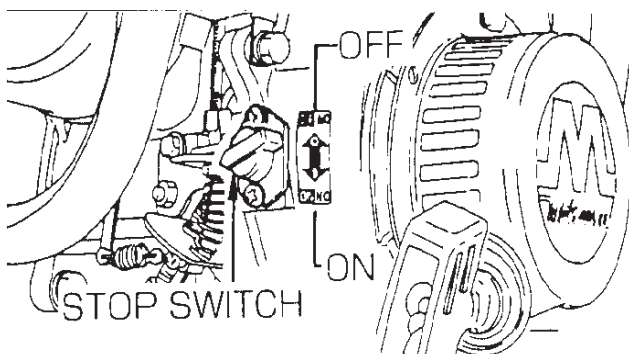
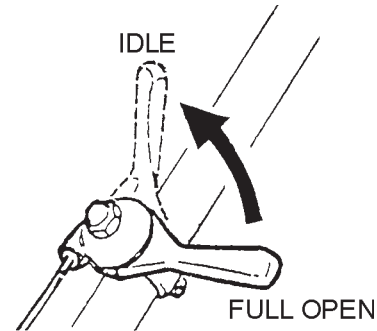

Figure 5. Engine On/Off Switch
Figure 10. Throttle Lever (Idle)
2. Set the engine ON/OFF switch (Figure 5) to the "ON" position (start).
- Move throttle lever quickly from the **FULL OPEN** to **IDLE** position (Figure 10) and run the engine for three minutes at low speed. After the engine **cools**, turn the engine *start/stop* switch to the "**OFF**" position (Figure 5) until engine comes to a complete stop.
- Move the throttle lever quickly to the **IDLE** position, and turn the engine *start/stop* switch (Figure 5) to the **STOP** position.